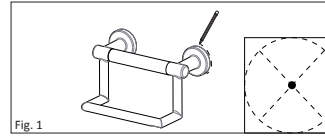

Fig. 1
4. Use a pencil and mark the centers on each side of the product for the mounting locations (see Figure 1).
(Fig. 1).